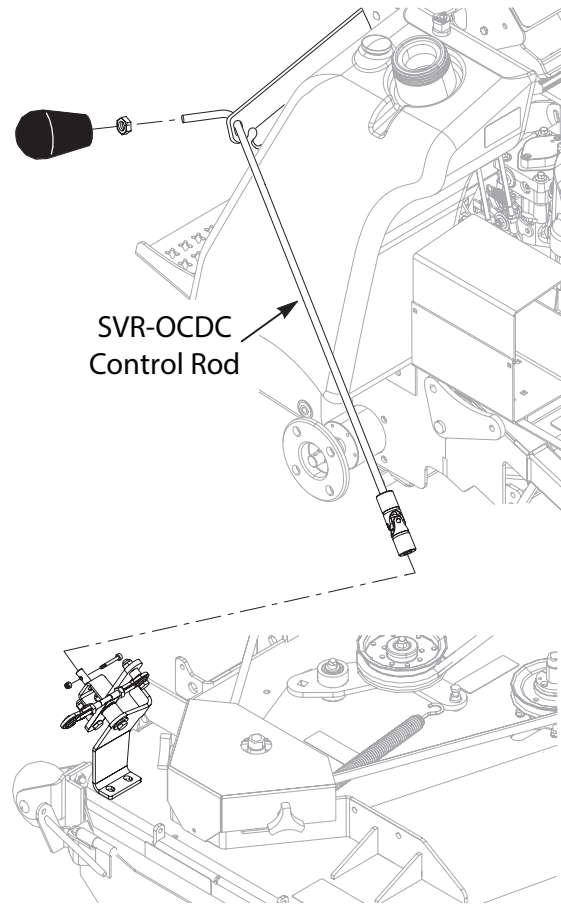

Figure 3-40. OCDC Control Lever Installation
3. Install the OCDC control rod through the handle bracket and attach to the OCDC pivot bracket. Secure the OCDC control rod to the pivot bracket using one (1) #8-32 x 1-1/4" screw and one (1) #8-32 elastic stop nut. See Figure 3-40. Tighten the hardware.
4. Install the jam nut and the OCDC handle knob to the control rod. See Figure 3-40. Tighten the jam nut.